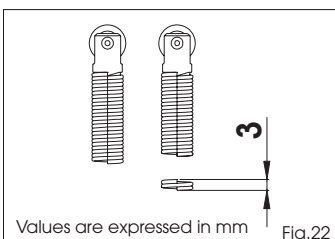

Fig.22
- Shorten the spring as shown in Fig. 22: two turns correspond to about 3 mm.